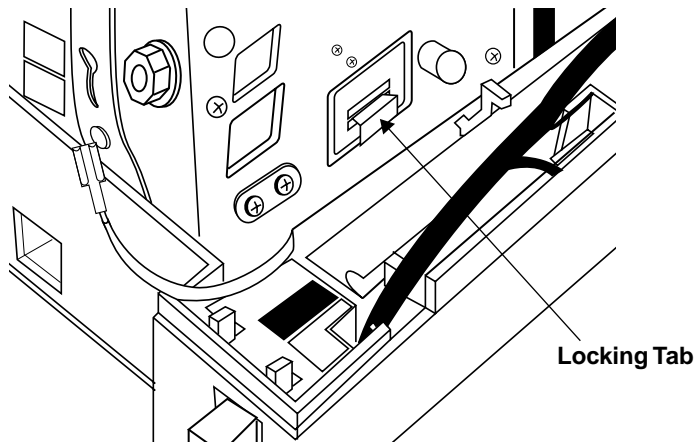

Figure 5-8. Sliding Printer Locking Tabs
- Slide the two printer locking tabs (black plastic) toward the front of the register while pressing downward, as shown in **Figure 5-8**.